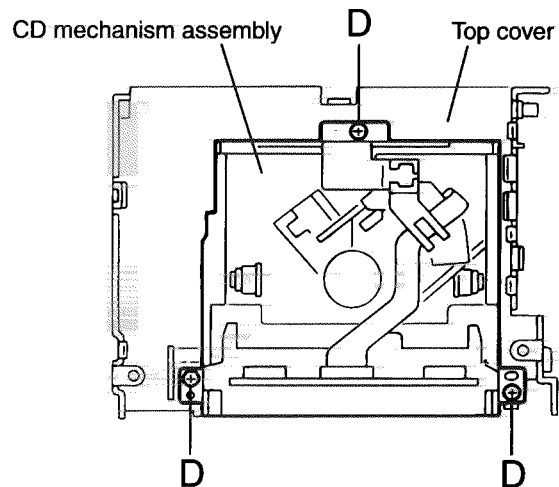

Fig.7
■ **Removing the CD mechanism assembly (See Fig.7)**